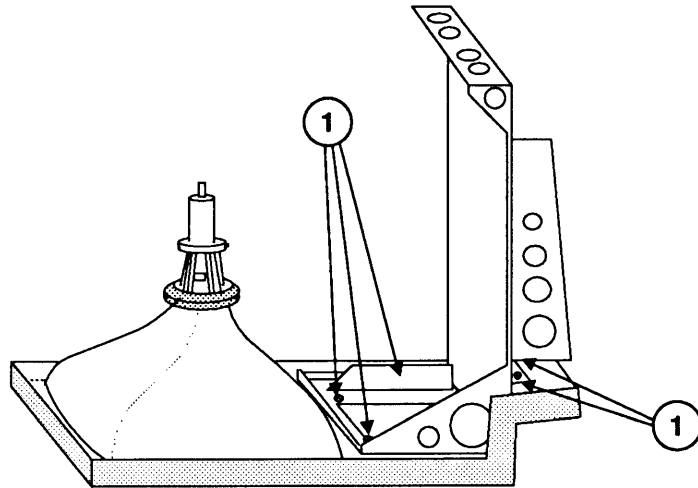

FIGURE 49
5. Replace the metal chassis, with disk and/or SCSI drive(s) attached, and fasten it to the bezel with the five Torx screws (Figure 49, #1).